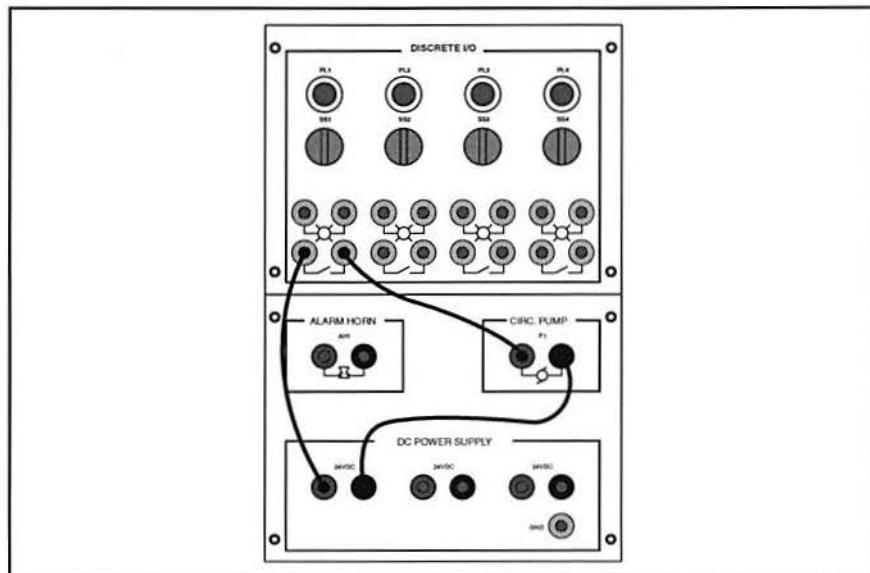

Figure 68. Circuit to Control the Circulation Pump
- G. Connect the circuit shown in figure 68 to control the circulation pump.